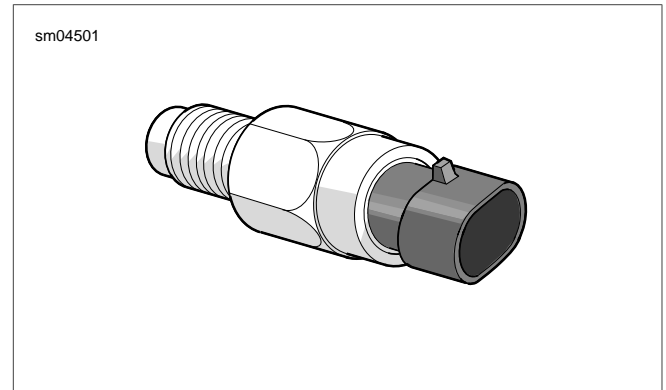

Figure 4-26. ET Sensor
4. See Figure 4-26. Remove sensor.